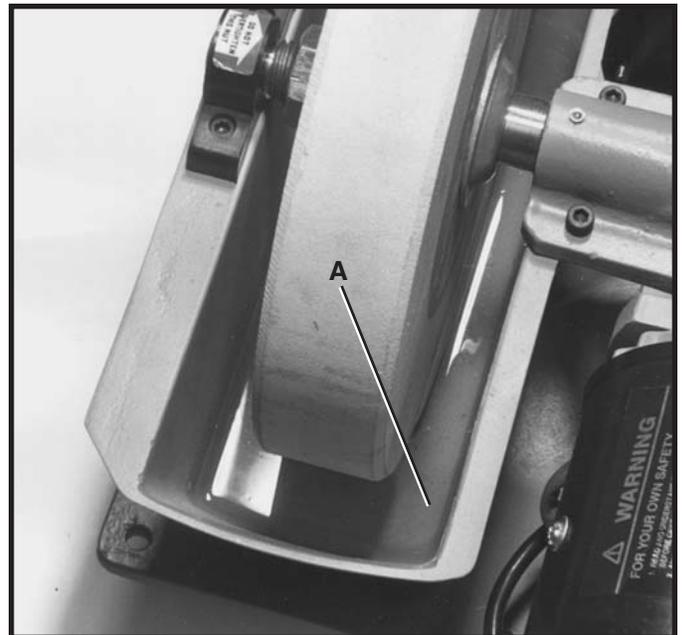

Fig. 15
When using the 10" grinding wheel, there should always be enough water in the base (A) Fig. 15, of the grinder in order that one inch of the lower portion of the grinding wheel will be submerged in water. As water is absorbed into the grinding wheel, additional water must be added into the base.